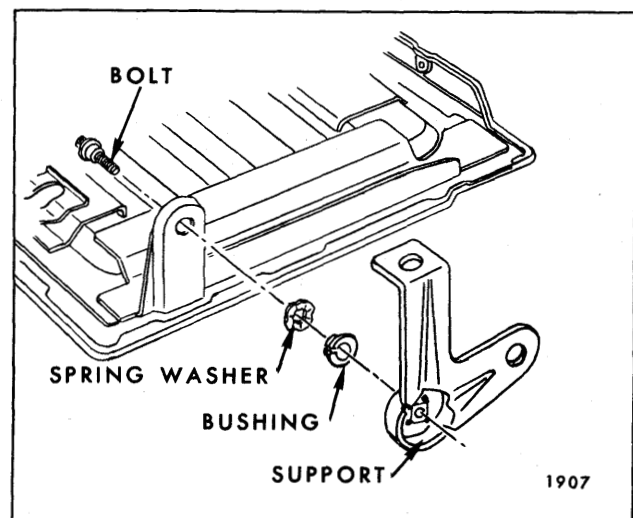

Fig. 10-53—Third Seat Cushion Panel and Support
To remove support, remove cushion from panel assembly; then remove bolt securing support to cushion (Fig. 10-53).
3. To install, reverse removal procedure. If support was removed from seat cushion panel, make sure bushing and spring washer are properly installed. (See Fig. 10-53).